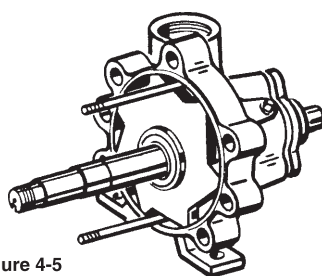

Figure 4-5
- Slide this entire shaft assembly into the cover (#1BI). The drive end of the shaft will extend through the center hole in the cover; the diffuser will be contained within the large bore on the inside of the cover. (refer to figure 4-5) The two notches in the diffuser fit the guide rods.